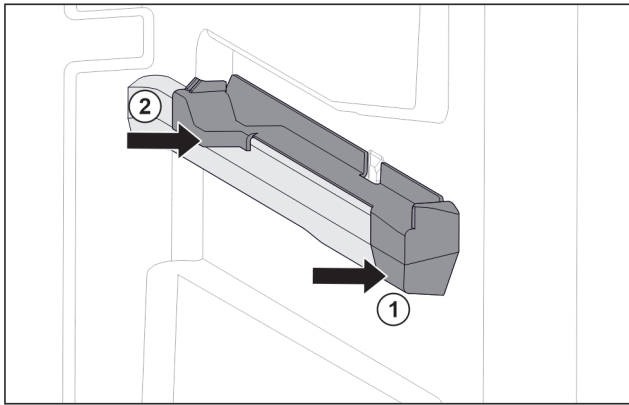

Fig. 221 Attachment on the right moulded rib
- ▶ Position attachment on moulded rib at the front. *Fig. 221 (1)*
- ▶ Press on attachment at the back. *Fig. 221 (2)*